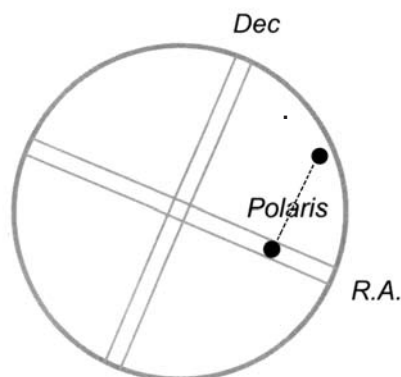

Figure 16. Adjust the telescope in Dec. (with the hand controller) to place the star on the R.A. crosshair.
7. Using the Dec. direction button on the hand controller, adjust the telescope in Dec. so Polaris lies on the R.A. crosshairs of the illuminated reticle eyepiece (Figure 16).
10. Adjust the position of the telescope in the Dec. axis so Polaris lies on the R.A. crosshairs of the illuminated reticle eyepiece (Figure 16).